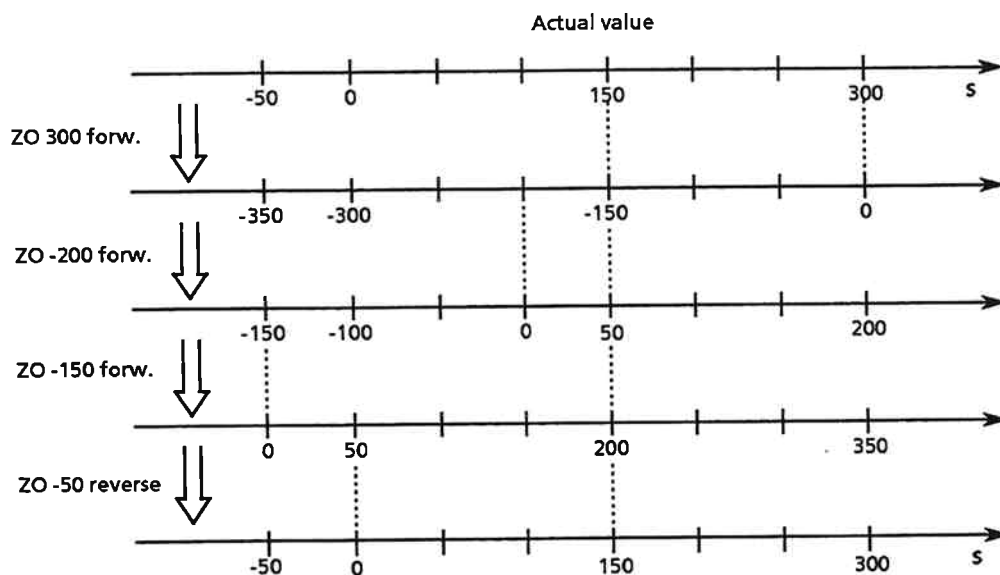

Figure 5-25. Relative Zero Offset with Different Values
- ⇒ The coordinate system must respond as shown in Figure 5-25.